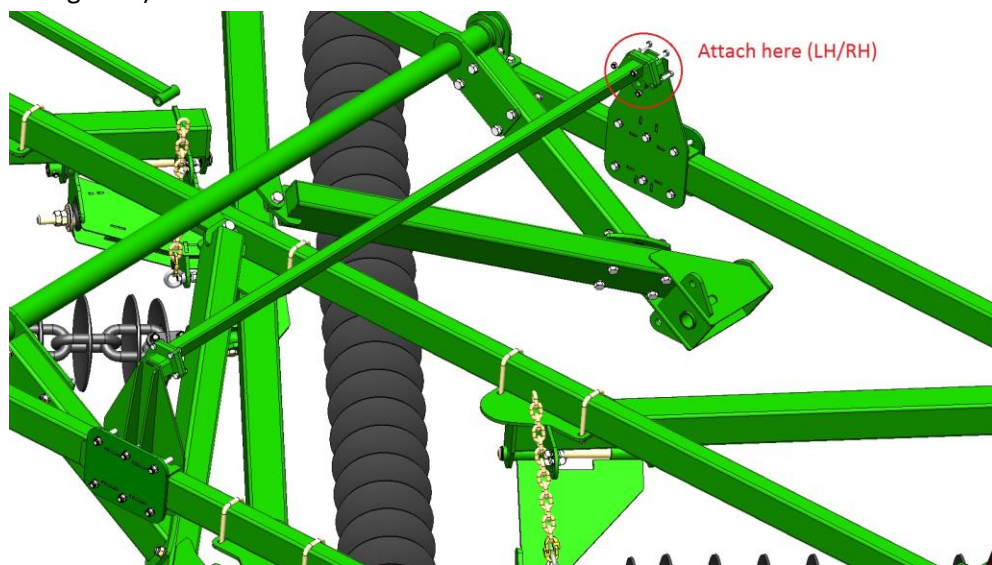

Figure 9: Mounting of Hydraulic Lift Brace (1410-18)
4. Attach Hydraulic Lift Brace (1410-18) to LH and RH Hydraulic Lift Mounts using 8-off M12 x 45 bolts (see Figure 9).